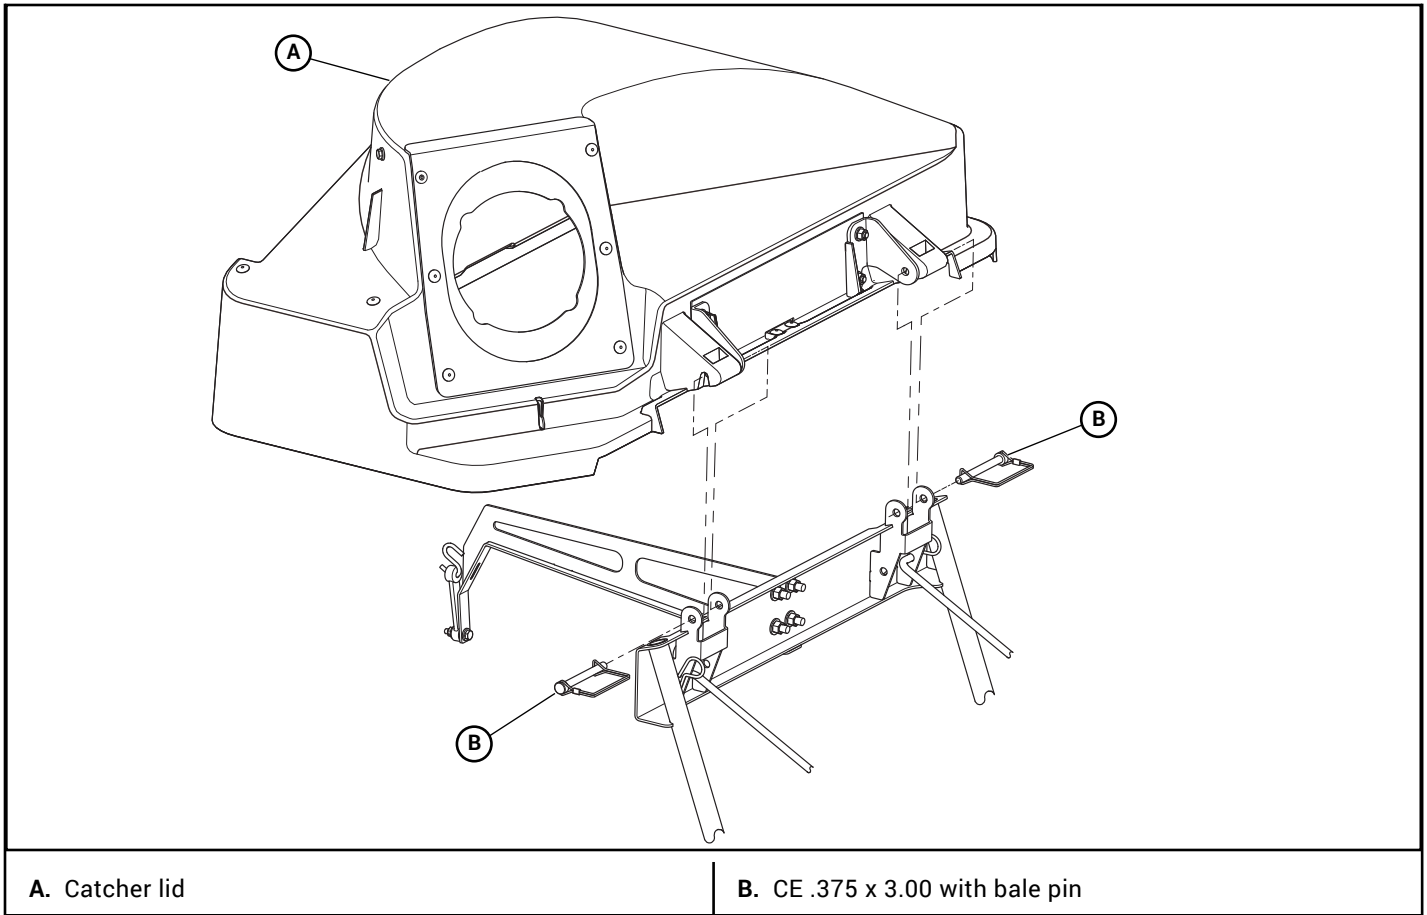

Figure 3-17
20. Attach the catcher lid to the catcher frame using the CE .375 x 3.00 with bale pins. Close the catcher lid. Figure 3-17